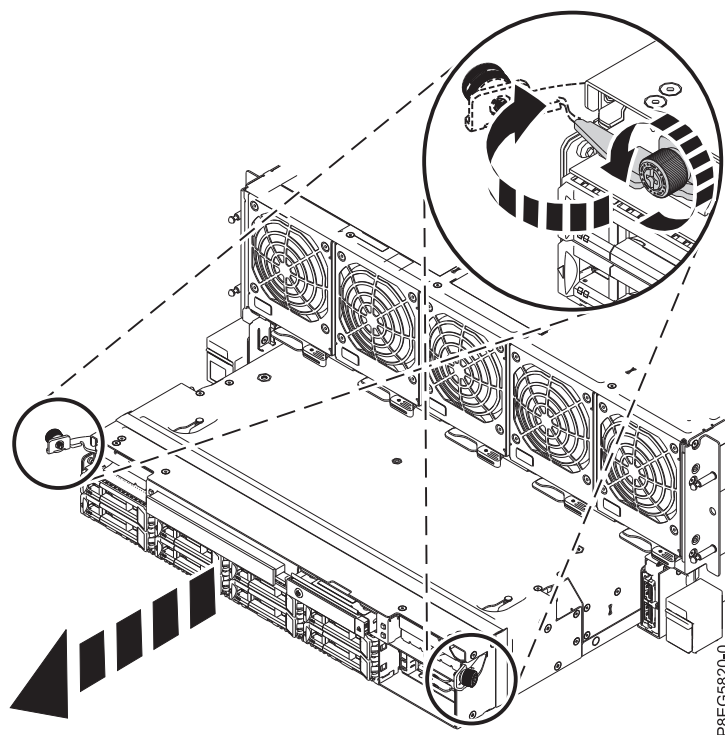

Figure 9. Removing the RAID assembly from the system
2. Turn the thumbscrews on the RAID assembly to loosen them, as shown in Figure 9.